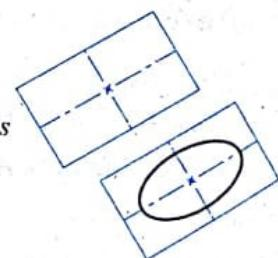

FIG 14.15
**Example :** Refer figure 14.15.